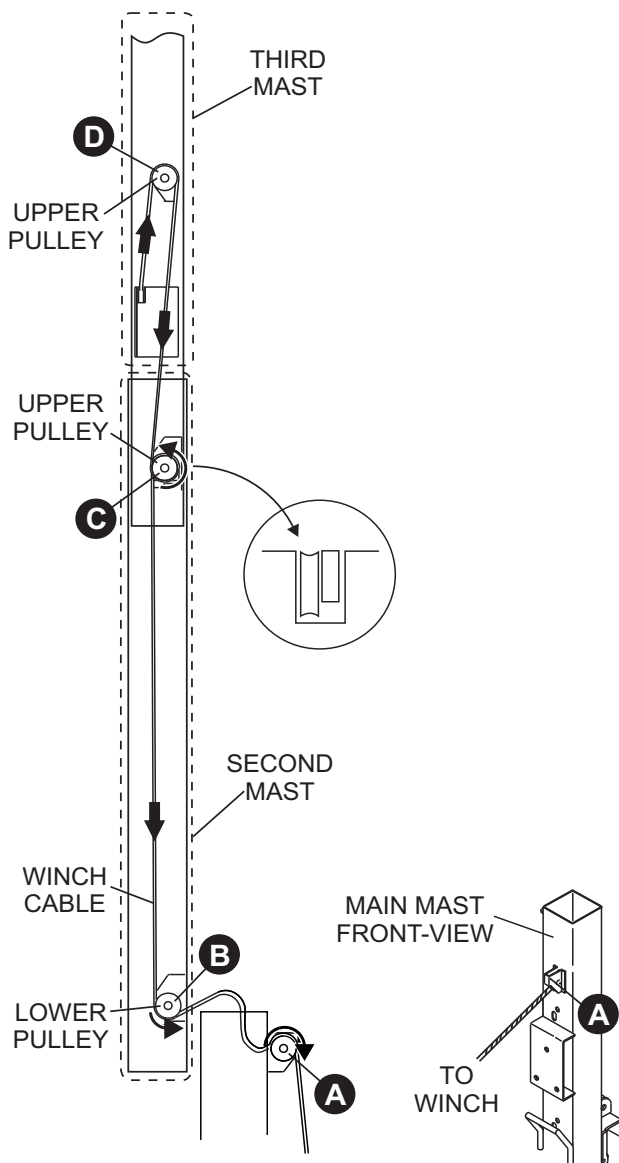

Figure 36. Attaching the Winch Cable
1. Route (pass) a new winch cable through the main mast pulley **A** (Figure 36).